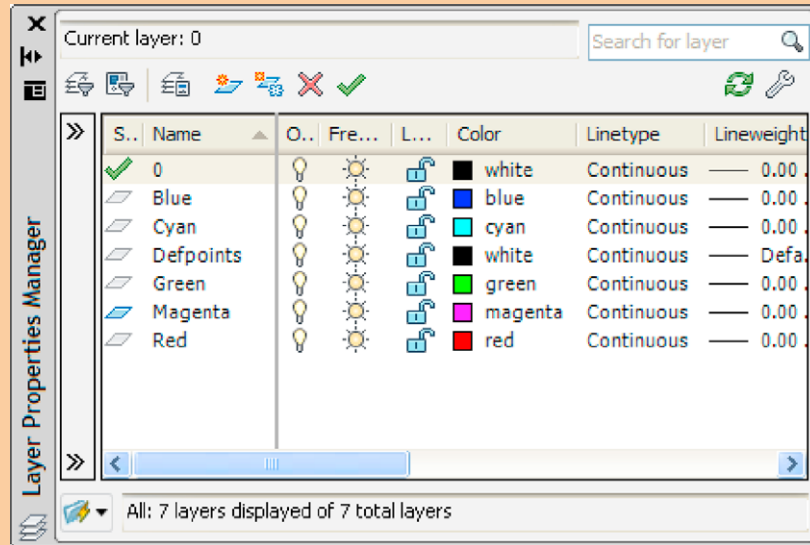

Fig. 12.5 The settings in the **Layer Properties Manager**
- b. In the **Layer Properties Manager** which appears make settings as shown in Fig. 12.5.